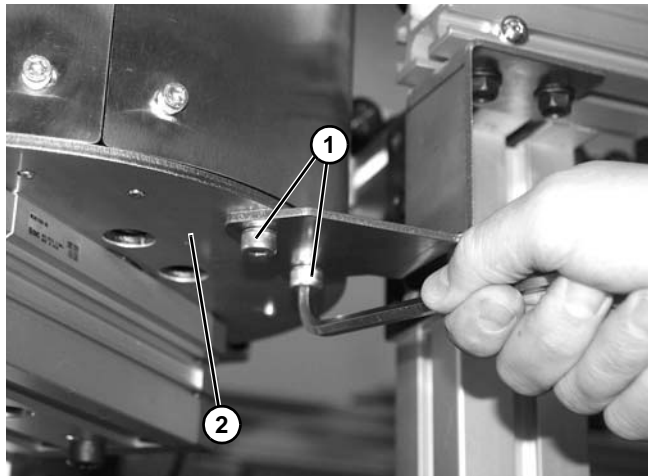

Figure 74
3. Install and tighten two screws (**Figure 74, item 1**) to secure tie bracket onto turn and transfer bottom plate (**Figure 74, item 2**).